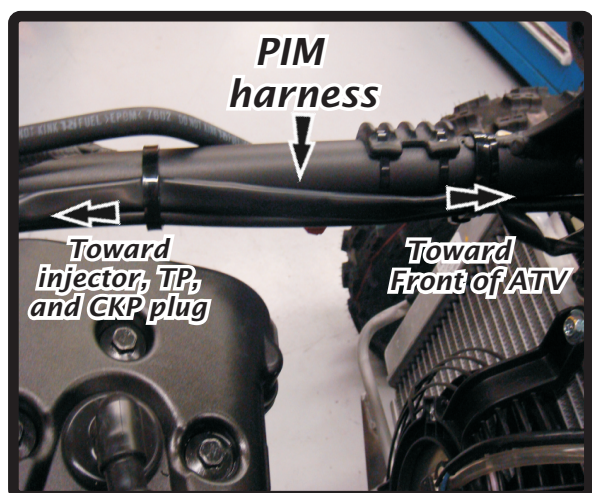

Fig. 5
- 6 Route the PIM harness forward to the front of the ATV. (Fig. 5)